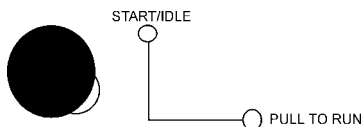

Figure 21. Engine Throttle Lever (LOW)
6. Check the engine speed throttle lever is pushed in (low speed) (Figure 21).